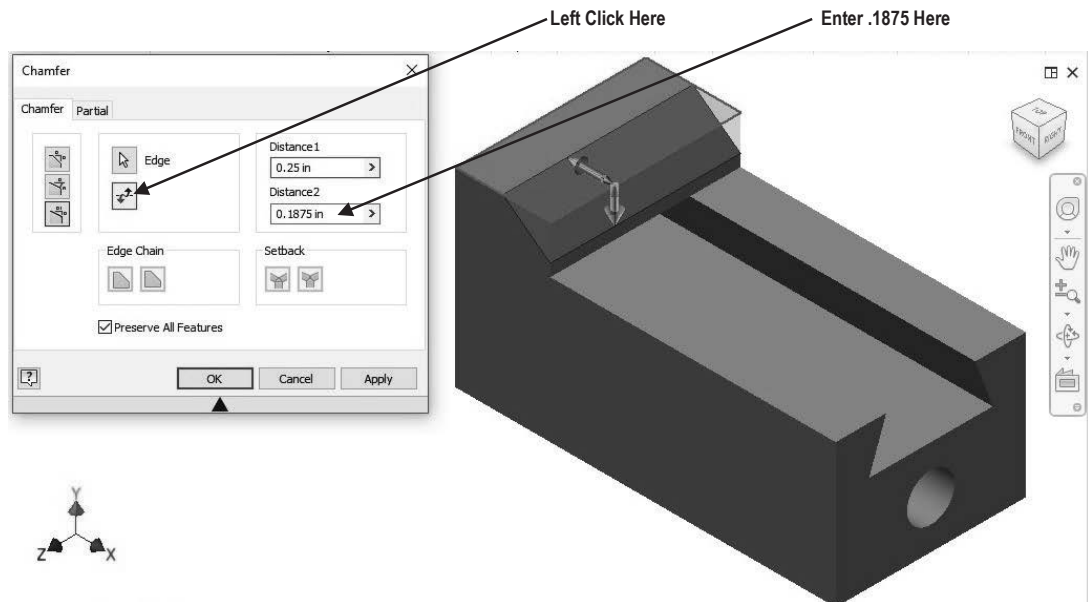

Figure 7
9. Move the cursor to Distance 2 in the dialog box and highlight the text. Enter **.1875** in the dialog box. Inventor will provide a preview of the chamfer. To flip the direction of the chamfer simply left click on the Flip icon as shown in Figure 7.